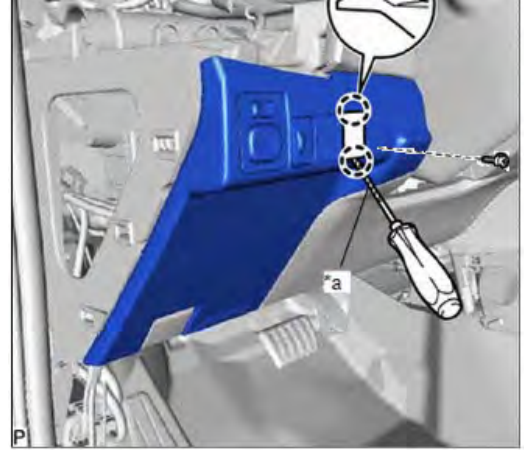

Figure 14
- (b) Remove blank knockout and then the screw (Figure 14).